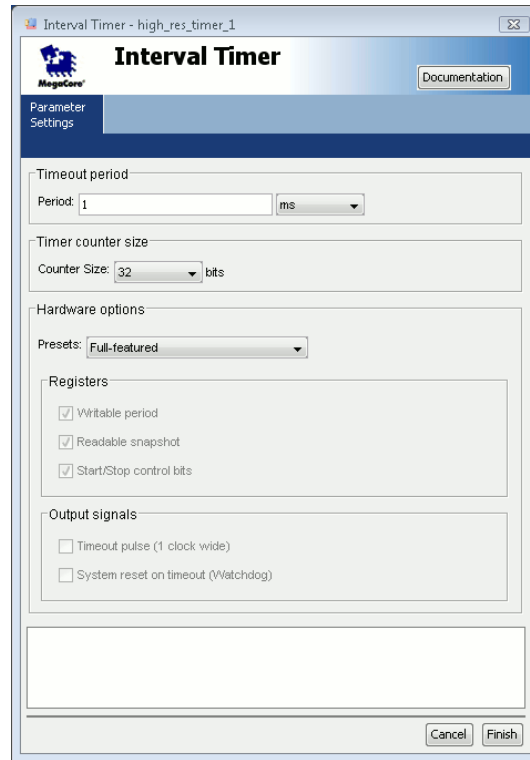

Figure 1.3: When creating `high_res_timer_1`, use a 1 ms periods.
12. Add another Interval Timer named `high_res_timer_1`. Leave the proposed options unchanged (see Figure 1.3). This timer is required by the Altera HAL for high resolution time measurement.